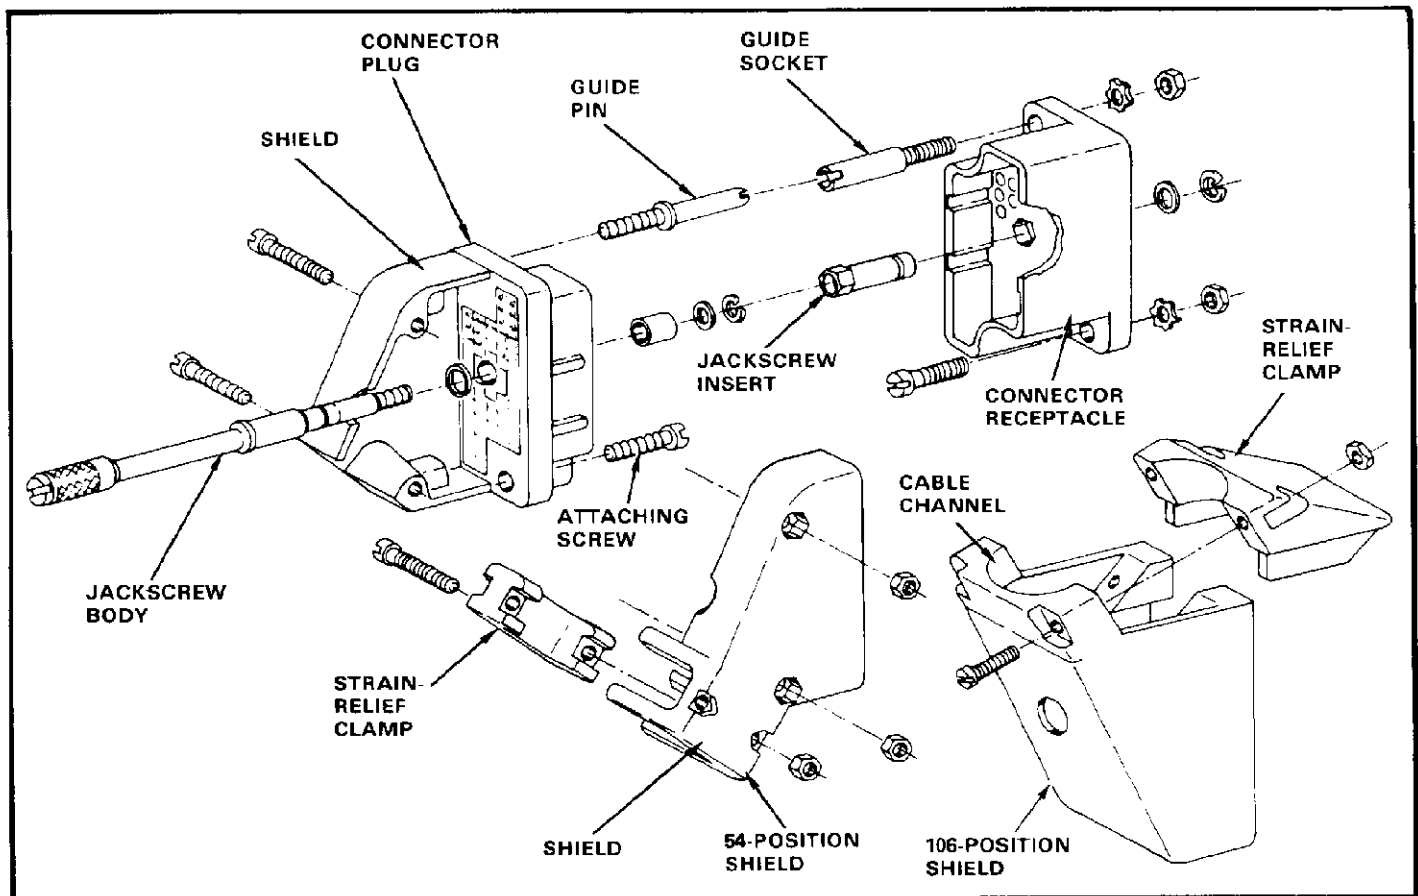

Fig. 3
8. JACKSCREW INSTALLATION (Figure 3)